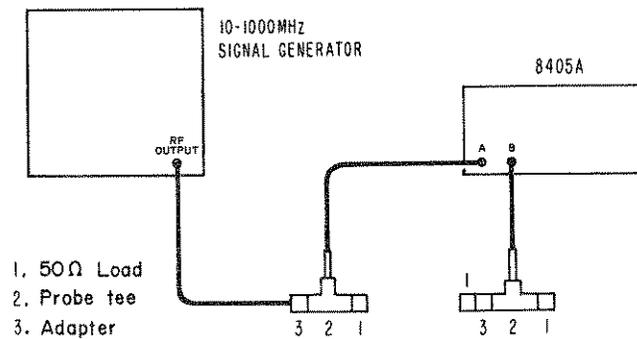

Figure 1. Channel Isolation Check
1. With signal source output at a minimum, connect equipment as shown in Figure 1.